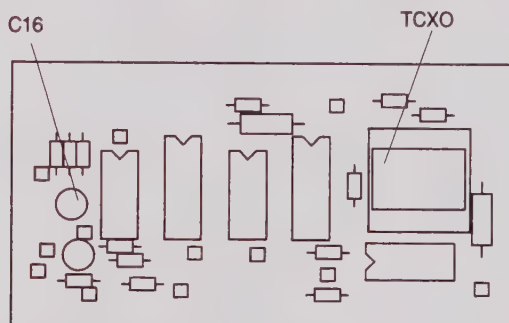
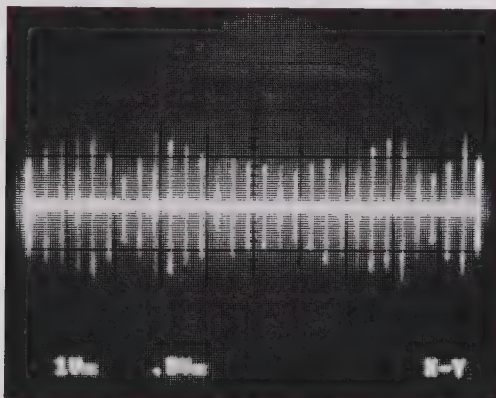

Figure 6-15. *Divider Module*
Figure 6-16. *Marker Response on Oscilloscope*
- Step 45.** Remove the cover from the Divider Module and adjust C16 (Figure 6-15) for an optimum marker response, as shown in Figure 6-16.)
- Step 54.** Connect a counter to the 25 MHz output from the divider module (Figure 6-15), and adjust the TCXO crystal for a counter reading of 25 MHz $\pm$ 5Hz.